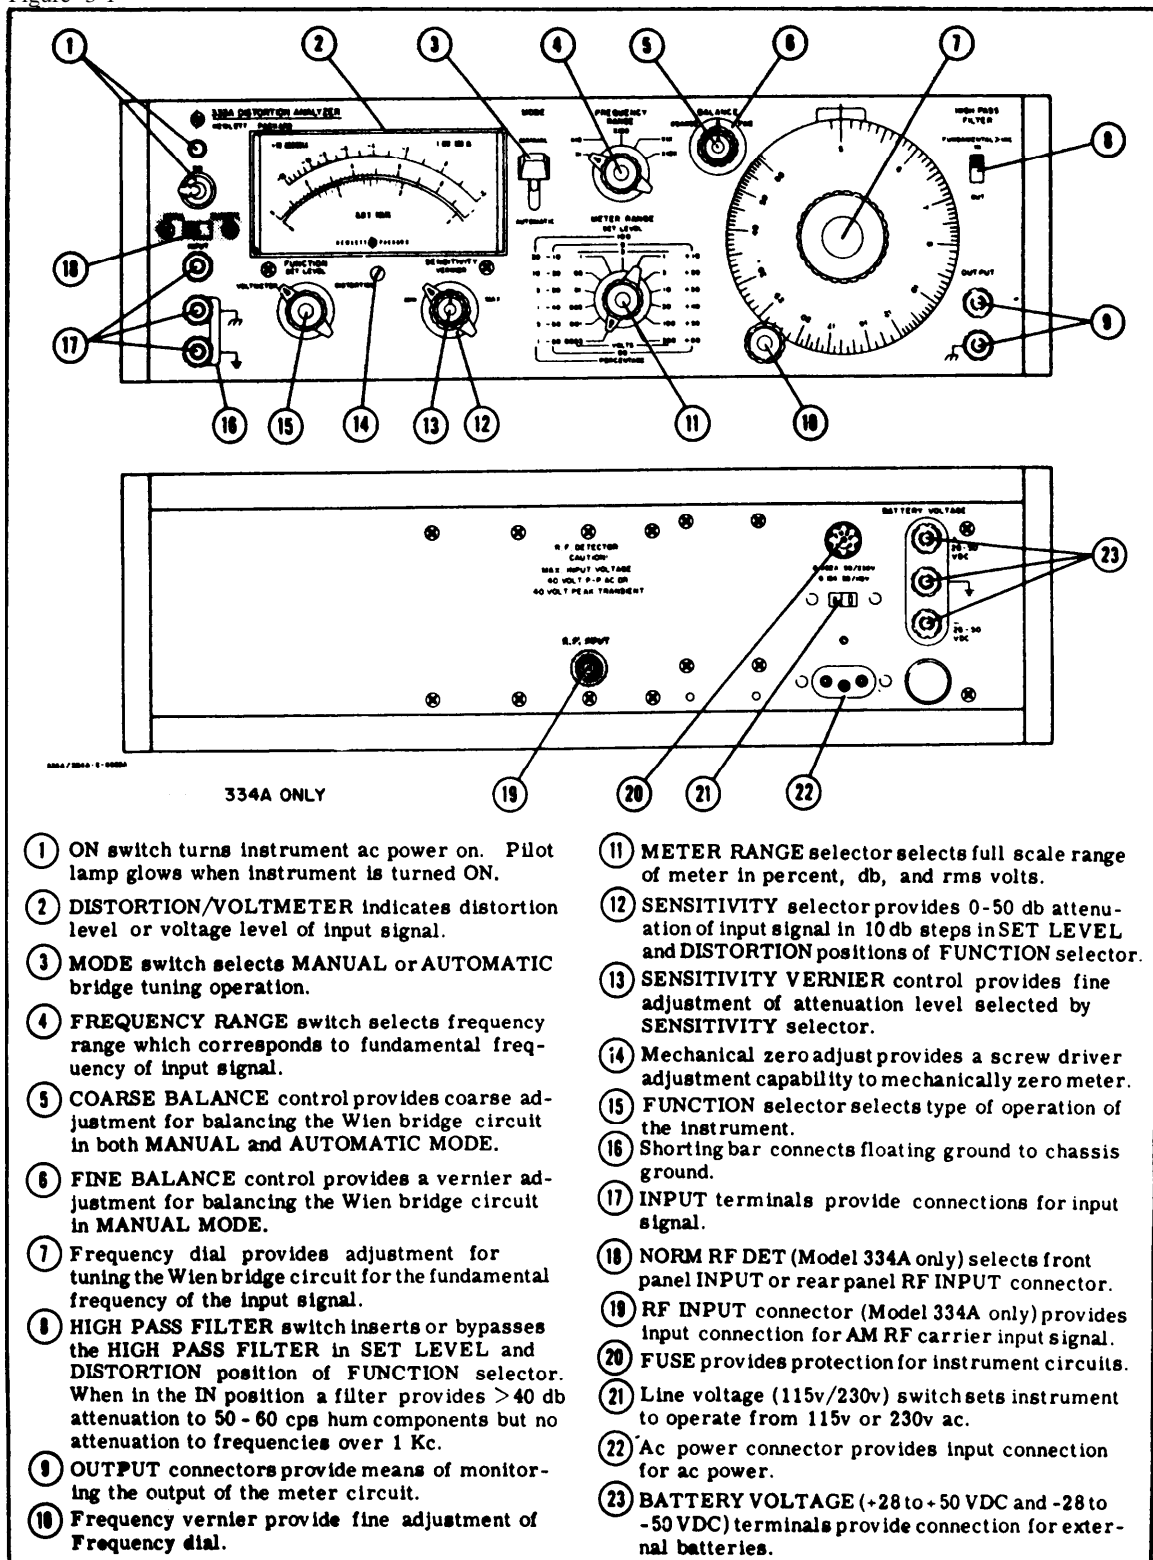

Figure 3-1. Front and Rear Panel Description
3-5. Figure 3-1 illustrates and describes the function of all front and rear panel controls, connectors, and indicators. The description of each component is keyed to a drawing included within the figure.
3-10. Signal source can be connected to the 333A and 334A through twisted pair leads or a shielded cable with banana plug connectors. Keep all test leads as short as possible to avoid extraneous pickup from stray ac fields. When measuring low-level signals, battery operation is recommended to avoid ground loops. Another method for avoiding ground loops is by connecting only one instrument in a test setup directly to power line ground through a NEMA (three-prong) connector. Connect all other instruments to the power source through a three-prong to two-prong adapter and leave the pigtail disconnected. Both the 333A and 334A have a dc isolation of ±400 vdc from the external chassis with the shorting bar, (item 16, Figure 3-1), disconnected.